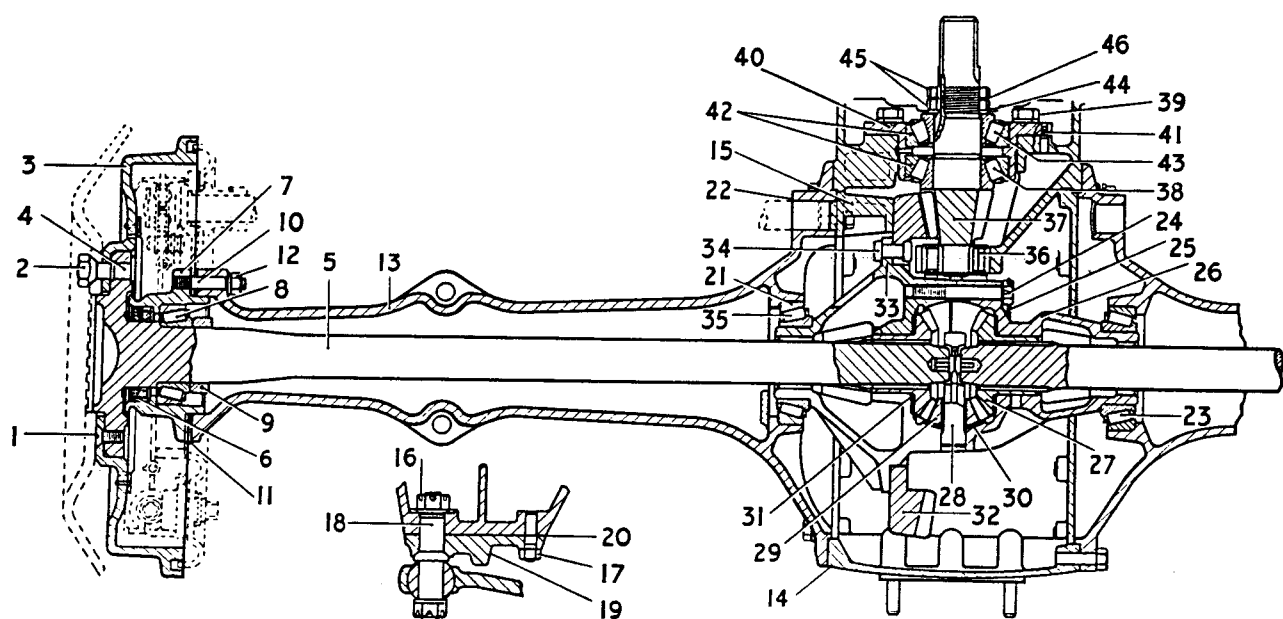

FIG. 1
as shown in Fig. 1.
4. The countershaft rear thrust bearing is located in its cup by mounting the power take-off shaft bearing support (44), fig. 1.
Shims (45), Fig. 1, are to be fitted between the machined face of the transmission casing and the P.T.O. shaft bearing support flange, so that the countershaft has a torque loading of 7-12 inch pounds (see Note below). An approximate indication of this loading is given if the shaft will turn fairly easily with no end float.
- (i) Mainshaft rear thrust washer (43), fig. 1.
- (ii) Mainshaft 1st gear wheel (12).
- (iii) Reverse gear shifter fork (20) (locate on reverse sliding coupling) (52).
- (iv) Mainshaft coupling connector (40) (to splines).
- (v) Mainshaft sliding coupling (11) (to connector teeth).
- (vi) Mainshaft 2nd gear wheel (41) (to connector).
- (vii) Mainshaft 3rd gear wheel (17) (to splines with larger boss toward clutch).
- (viii) 3rd and 4th gear shifter fork (18) (locate on countershaft sliding coupling).
Remove nuts (59) with lockwashers, from studs (60) securing shift lever cup (61) to steering housing (62), fig. 1. Remove spring seat (63) and spring (64).
## Rear Axle Assembly—Fig. 1.
(Annotation as for Fig. 1)